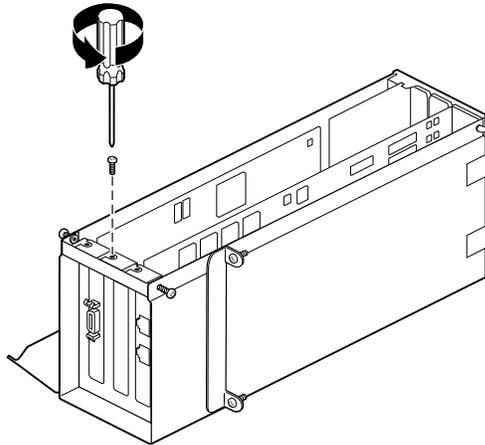

Figure 4-33 Attaching the Blank Panel to the I/O Door
6. Attach the blank panel to the I/O door with the screw you removed in step 1, as shown in Figure 4-33.